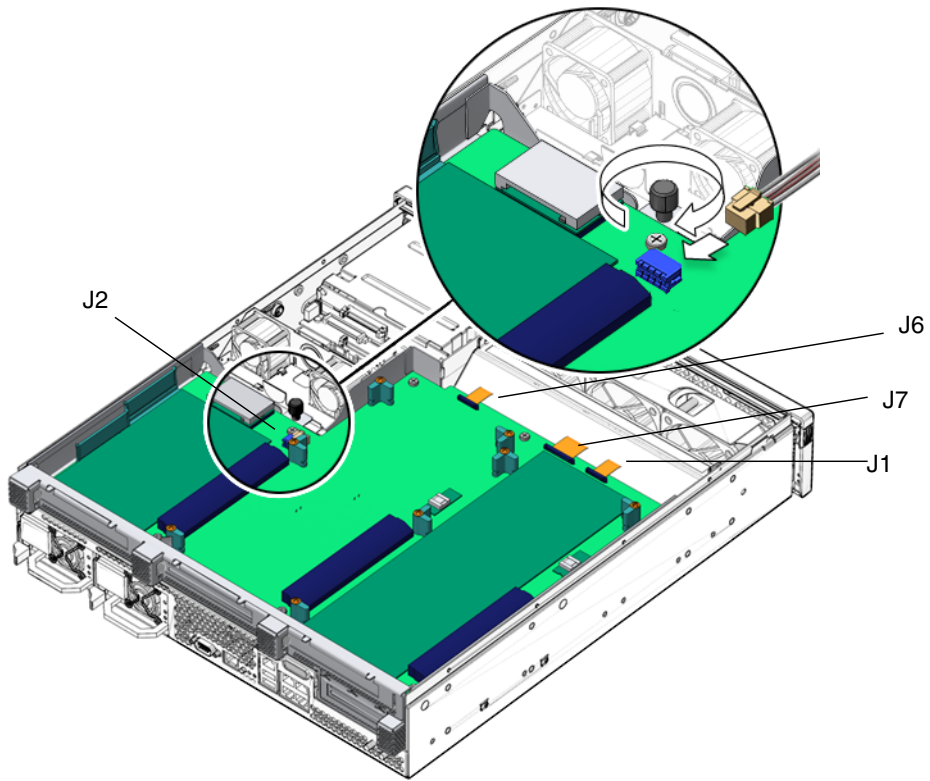

FIGURE 3-85 Reconnecting J2 and Tightening the Thumbscrew
4. Tighten the thumbscrew and reconnect the cable at J2 (FIGURE 3-85).
5. Reconnect PCI-E cables from the motherboard into connectors J6, J7, and J1 on the front edge of the PCI tray. Wiggle the connections to ensure they are latched and fully seated (FIGURE 3-85).